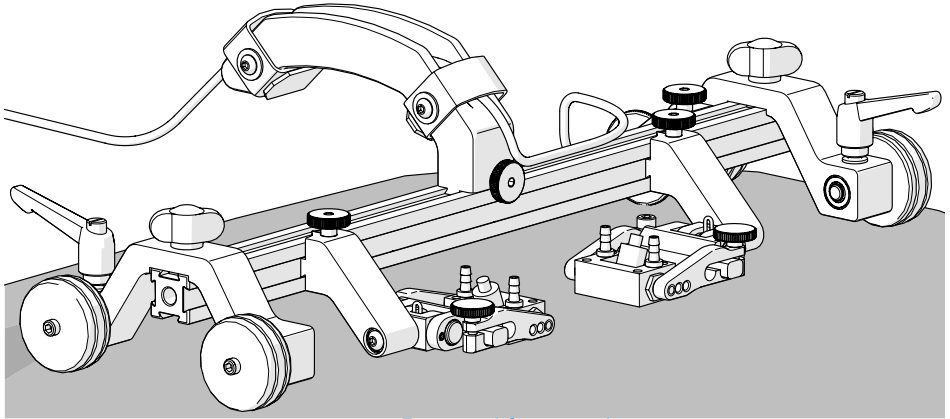

Fig. 13 - Prepared for scanning
6. The spring loaded probe holders are designed to maintain wedge contact with the scan surface (*Fig. 13*), as well, the encoder is designed to maintain contact pressure on the scan surface for accurate reading.